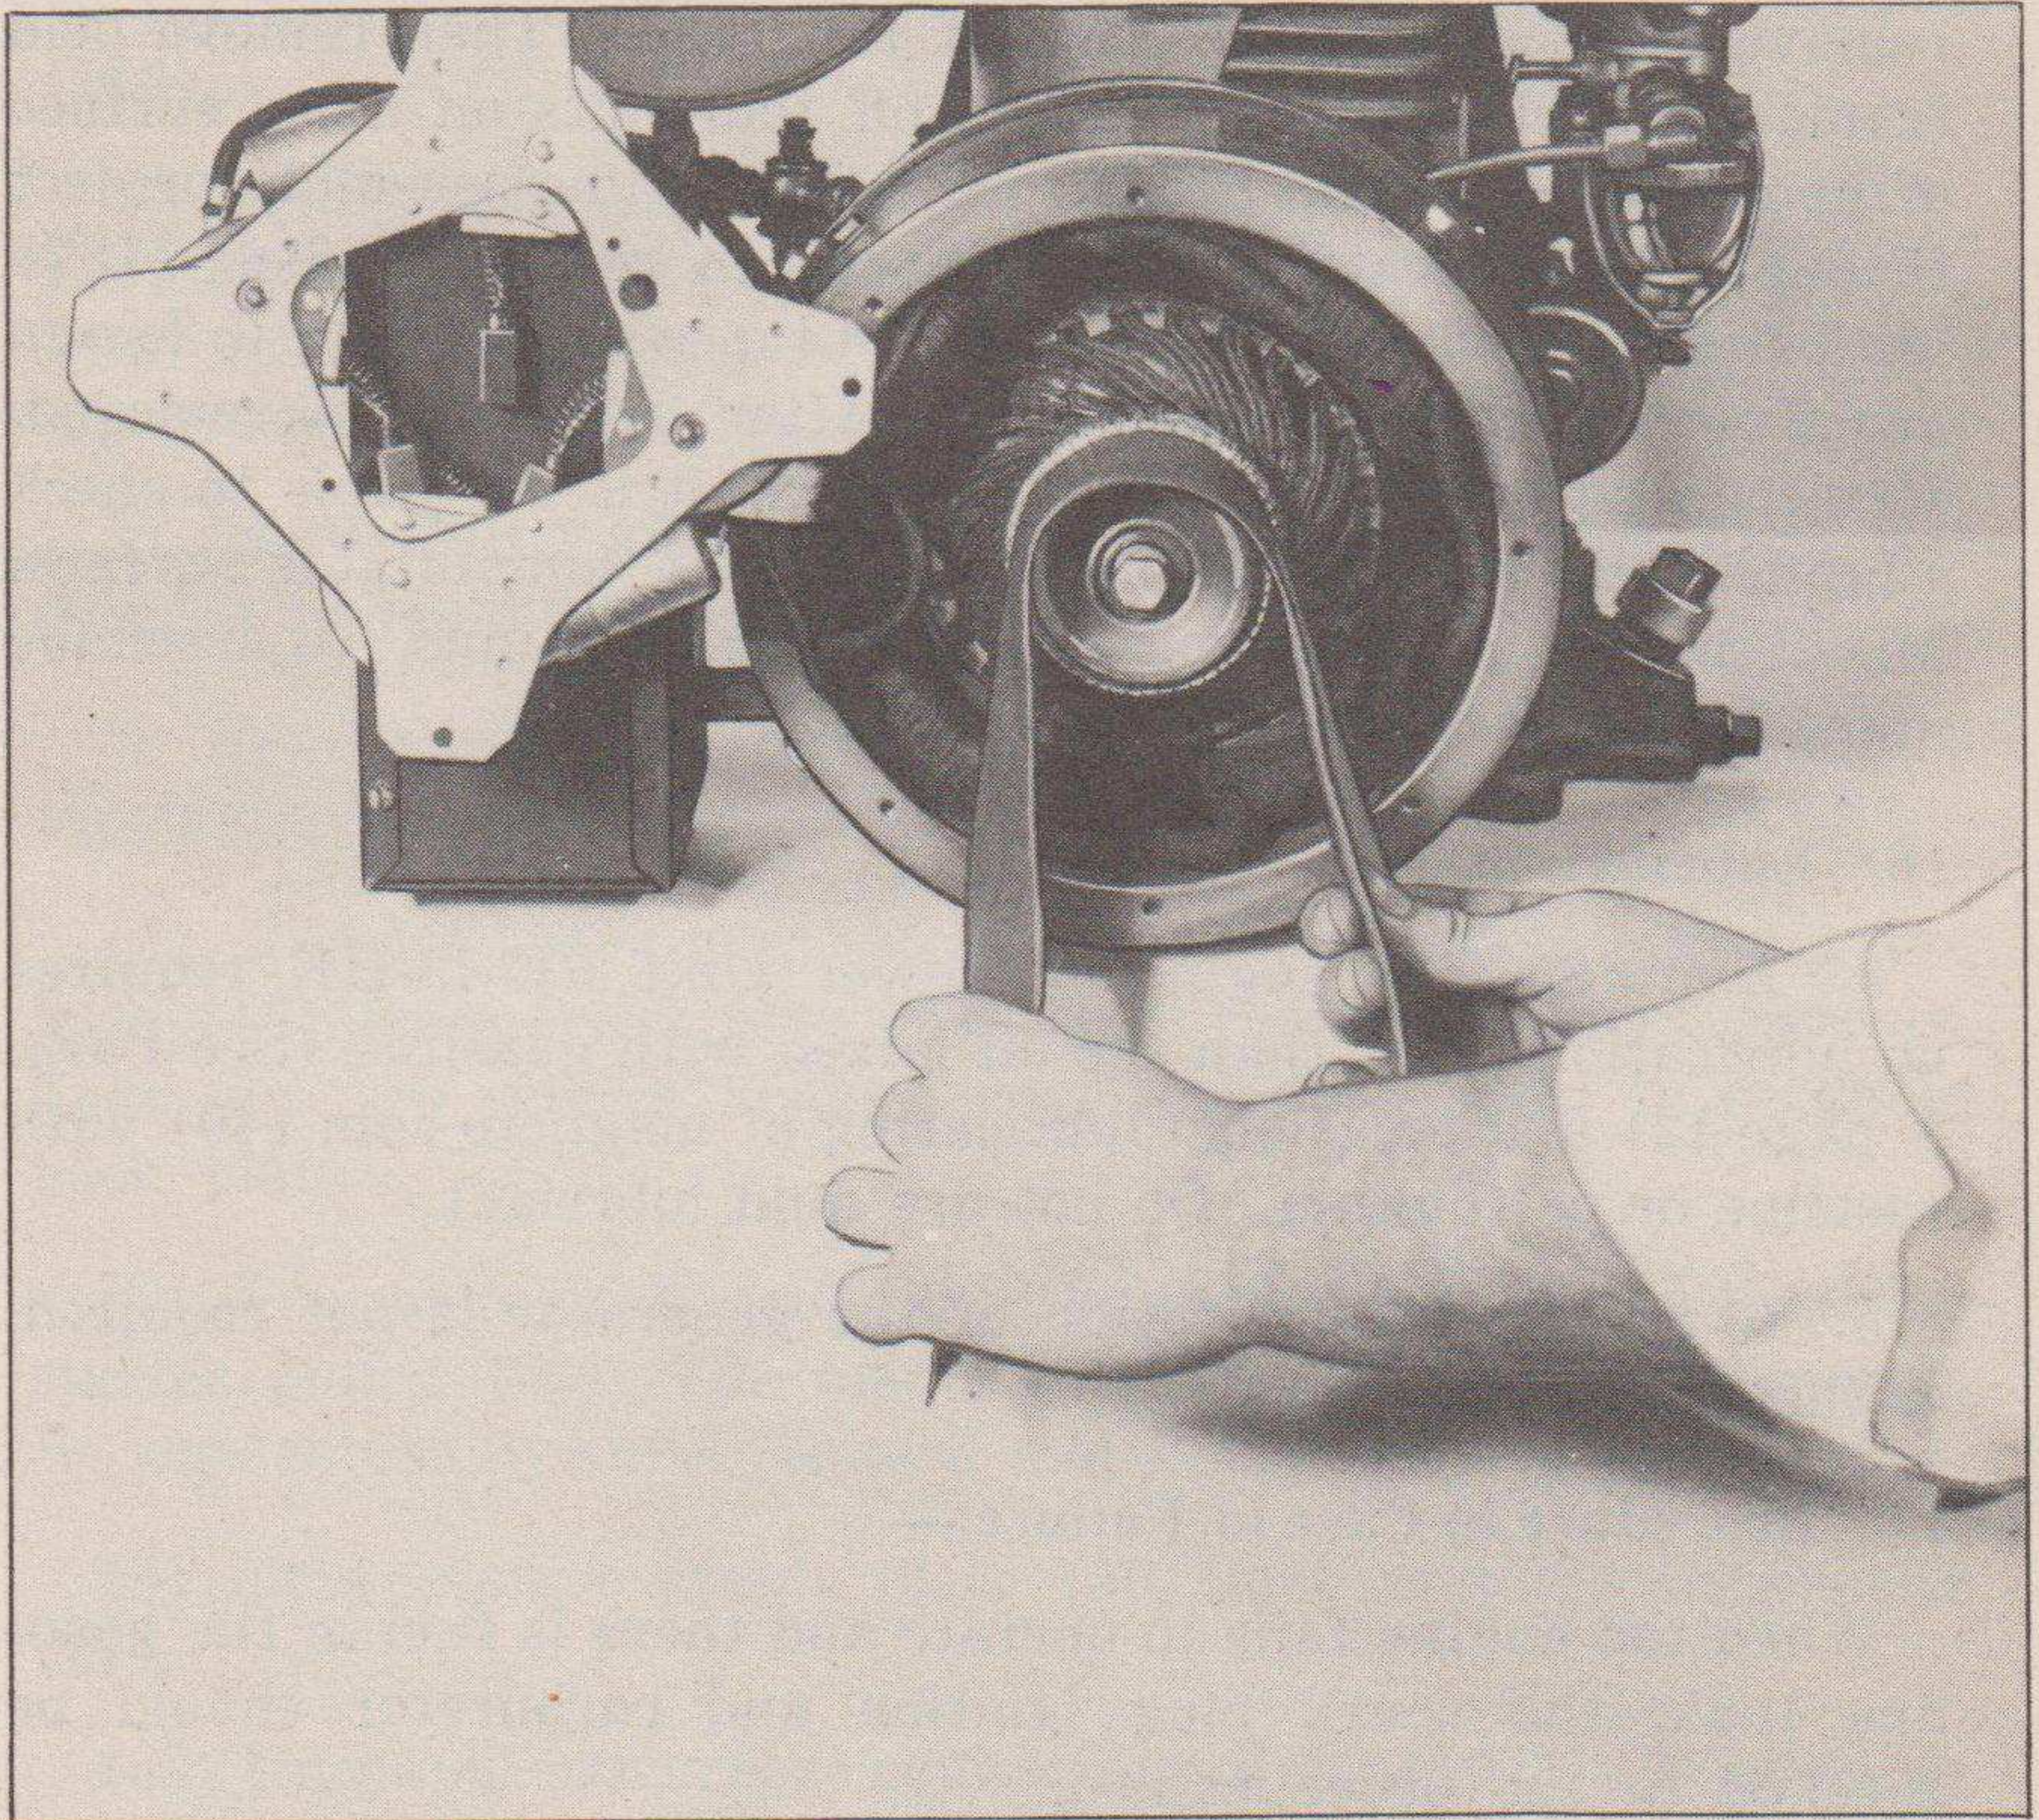

FIG. 17. DRESSING COMMUTATOR
a. To clean commutator.—The commutator can be cleaned by touching very lightly with a fine grain sandpaper or crocus cloth while the armature is rotating. (See Fig. 17, page 35.) Stop the unit and use a pen knife or similar instrument to remove oil, dust, or carbon from between the bars of commutator.